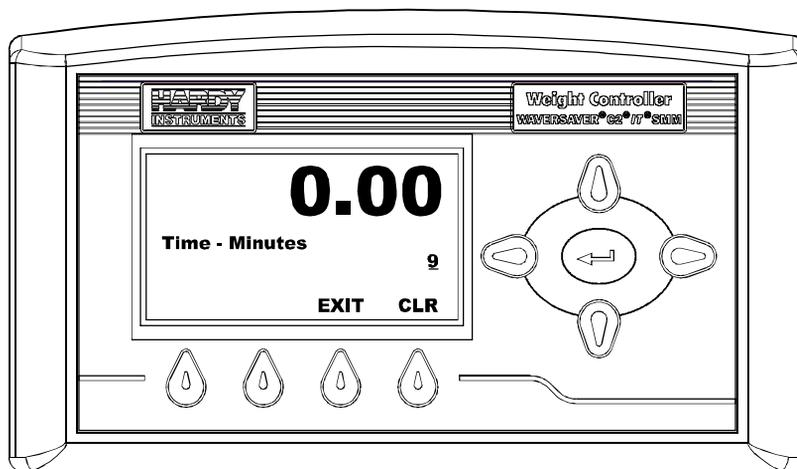

FIG. 107 TIME - MINUTES MENU
Step 20. Press The Enter button. The Time - Minutes Menu appears. (See Fig. 107)